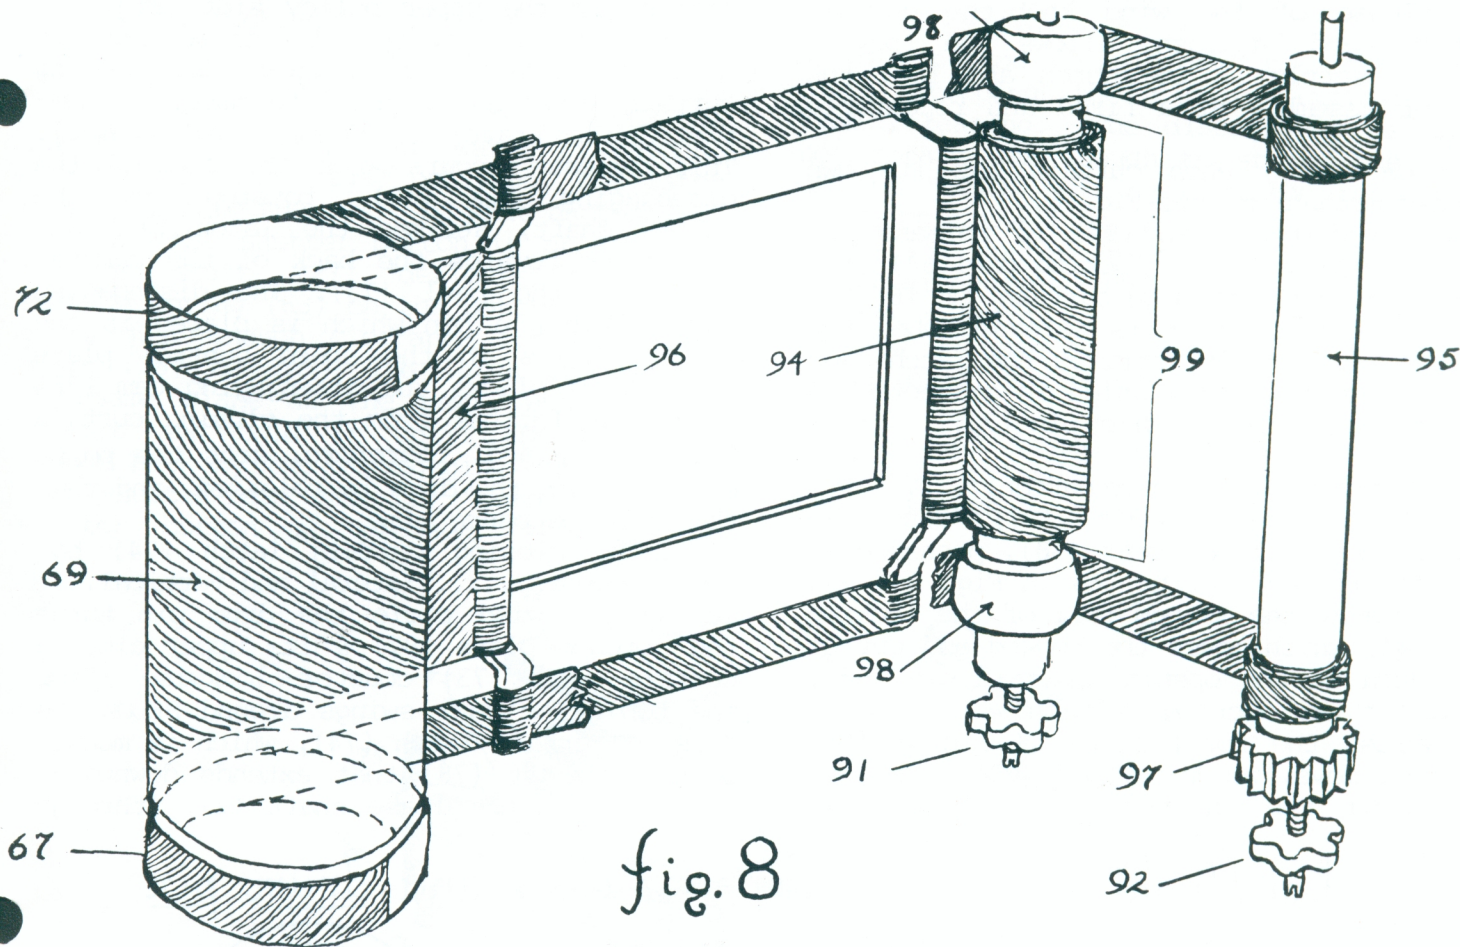

fig. 8
The curtain wind idler (80) transmits the drive to the pulley gear (66). Now before we start on this section, we shall spend a little time on the curtains and their various actions (Fig. 8).
When the shutter is released the first curtain to cross the focal plane from left to right (viewed from the front) is the opening curtain (94), which has a solid cloth section attached to 2 tapes. These tapes are wrapped around the upper & lower pulleys (72 & 67). It rolls up on one of 2 tensioning rollers (99). This opening curtain is followed, after a variable and measured delay based upon the selected shutter speed, by the closing curtain (96), which is wound around the drum (69) with its tapes attached to the second of the two tensioning rollers (95).....(In Fig. 8 a section of the tapes has been cut away!!) As this closing curtain starts its travel after the opening curtain, the drum (69) on which it is mounted, must be able to remain stationary whilst the pulleys carrying the opening curtain tapes are turning. This is not too difficult, except that both curtains must be wound back together on their respective pulleys and drum with a fixed overlap, or the film would be exposed during the wind cycle. To satisfy these conditions the shutter has the following mechanism.
- The opening curtain pulley shaft (68) has FIXED to it the following.....
1. Speed control plate (77) with its movable speed control knob & disengage cam (16&76).
2. Upper pulley (72) with one of the opening curtain tapes.
3. Lower pulley (67) with the other opening curtain tape.
4. The pulley gear (66)
5. The opening curtain cam (65).